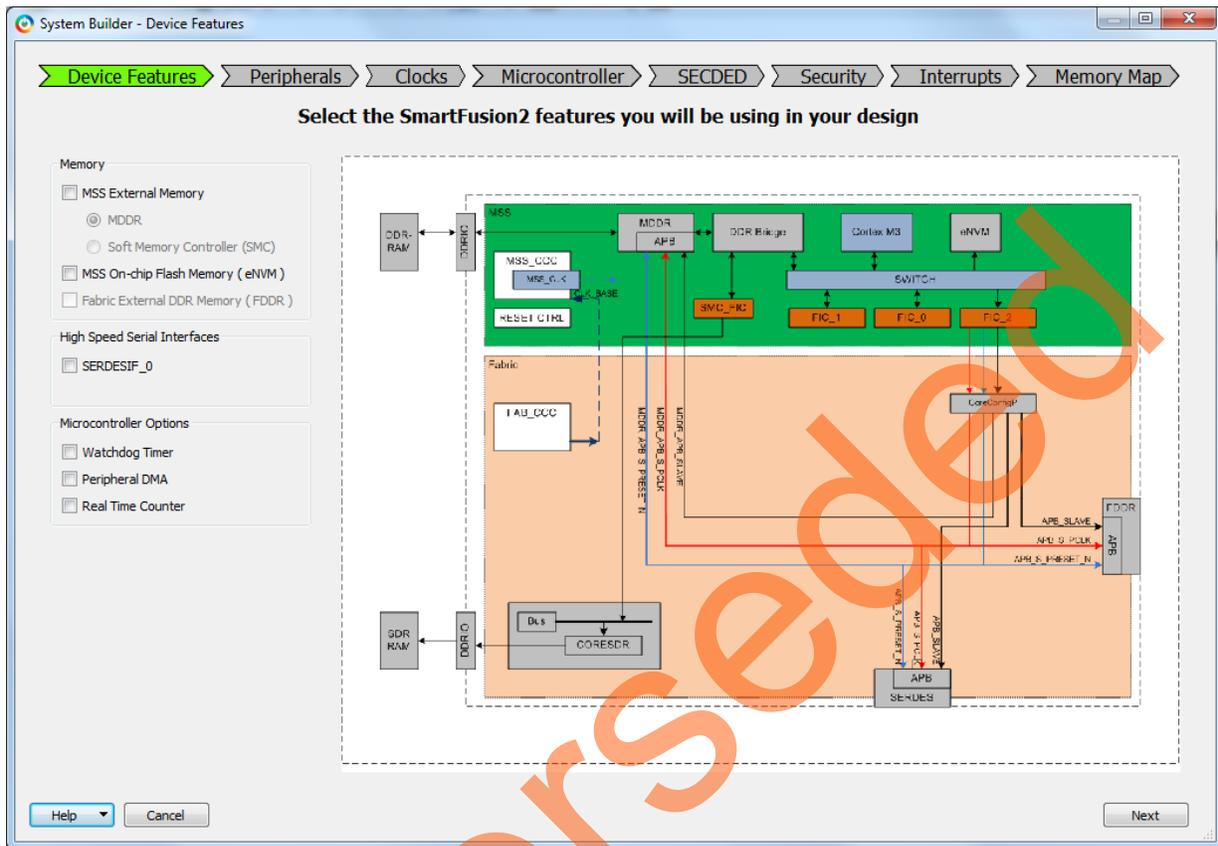

Figure 7 • System Builder – Device Features Page
9. Figure 7 shows the **System Builder – Device Features** page.